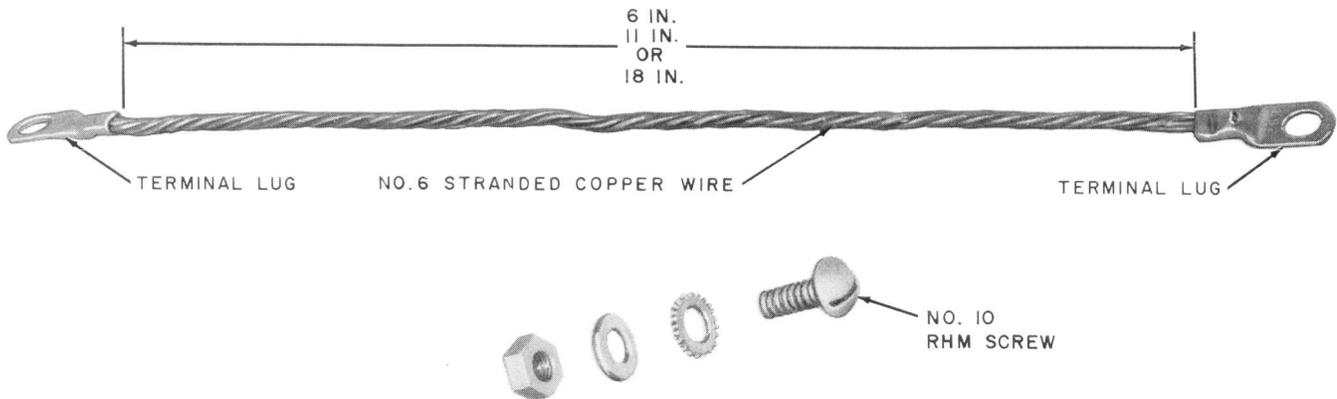

Fig. 3—Bond Strap
2.06 A bond strap (Fig. 3) is available on an optional basis for connection between stud of bond clamp and ground.